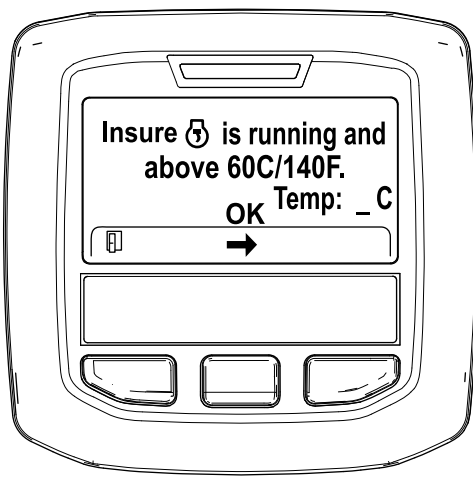

Figure 51
5. If the coolant temperature is below 60°C (140°F) the "Insure  is running and above 60C/140F" message displays. (Figure 51).